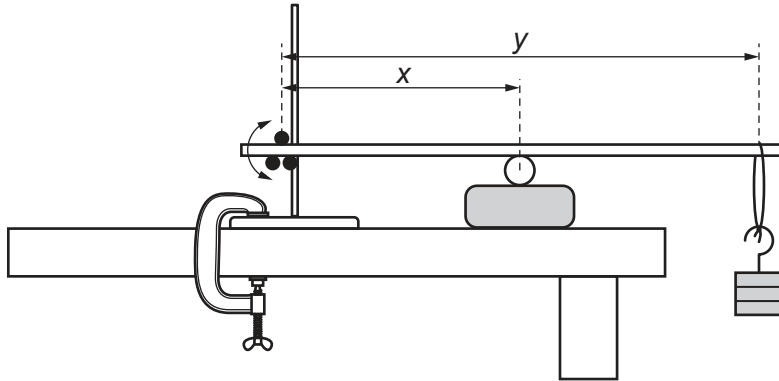

Fig. 3.3
• Using the loop of string attach the mass hanger and masses near the end of the wooden strip as shown in Fig. 3.3.